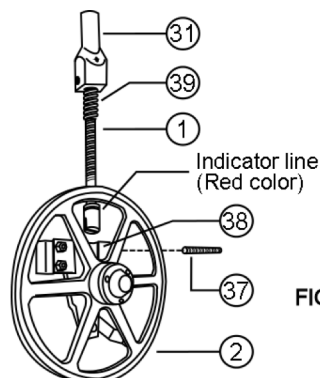

FIG. 7 ASSEMBLY OF UPPER WHEEL AND TENSION GUIDE
2.- Hold the upper wheel (2) with one hand and with your other hand turn the tension handle (18) counter clock wise until is completely out of the rod.
3.- Slide the upper wheel (2) down, out of the tension guides (32) and remove it, **be careful because it's heavy and if it falls may cause a personal injury.**
4.-The upper wheel (2) is assembled to the tension gauge assy. **(Fig.7)**. Disassemble the tension guide assy by removing the tension gauge pin (37) with your hands. This will let you to take out the tension gauge housing (31), tension gauge spring (39), the rod an indicator (1), and the upper wheel hanger (38). Clean these parts using a soft brush and a mild detergent, rinse with water.